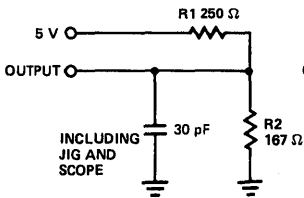

Figure 1a
7. Test conditions assume signal transition times of 5 ns or less, timing reference levels of 1.5V, output loading of the specified IOL/IOH and loads shown in Figures 1a, 1b.